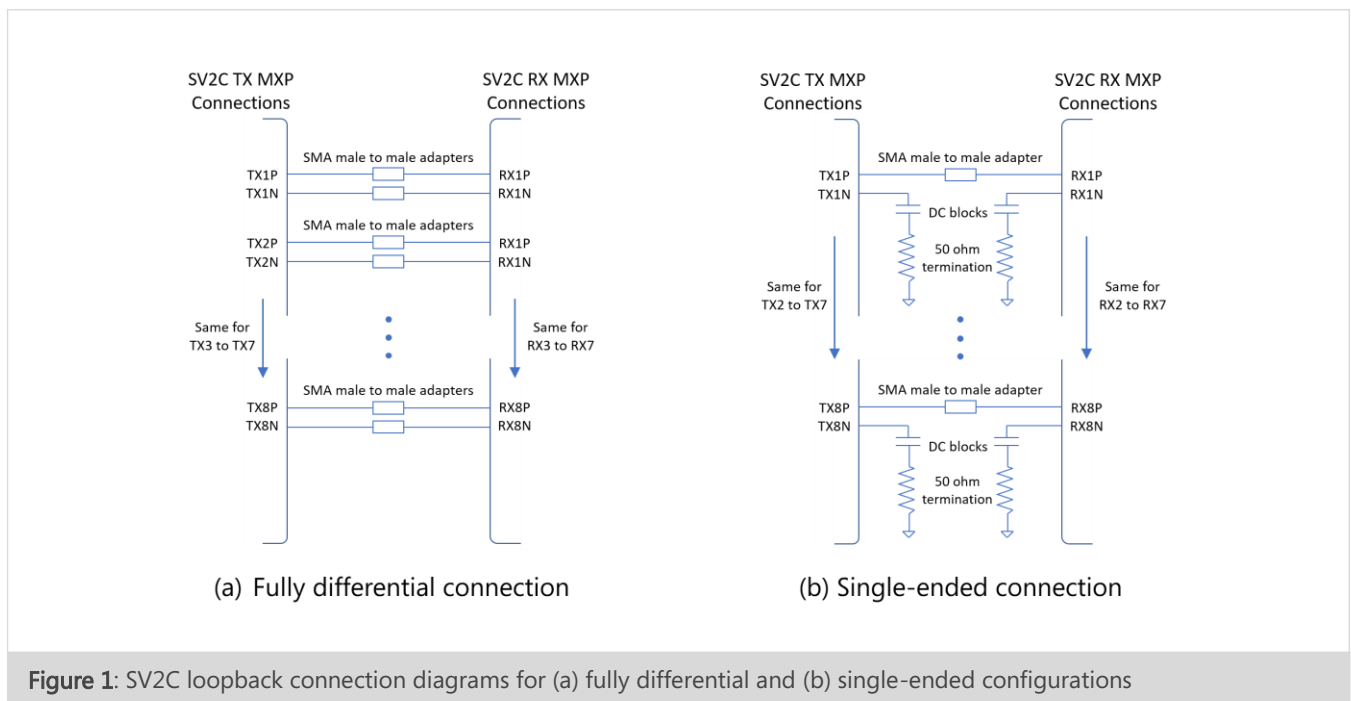

Figure 1: SV2C loopback connection diagrams for (a) fully differential and (b) single-ended configurations
There are two TX to RX loopback configurations used for the procedures in this document: (a) fully differential configuration and (b) single-ended configuration. Connection diagrams for each are shown below in Figure 1. Refer to example part numbers given above.
5. **Start the RX threshold calibration.** To do this, configure the MXP cables so that all TX signals are looped back to RX signals using the differential configuration (see Figure 1(a) on page 4 for connection details).